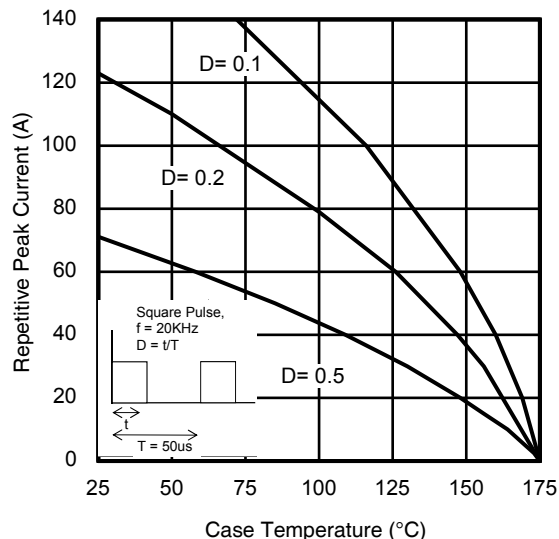

Fig. 19 - Maximum Diode Repetitive Forward Peak Current vs. Case Temperature
- ① $V_{CC} = 80\% (V_{CES}), V_{GE} = 20V, L = 23\mu H, R_G = 10\Omega$.
- ② Pulse width limited by max. junction temperature.
- ③ Refer to AN-1086 for guidelines for measuring $V_{(BR)CES}$ safely.
- ④ $f_{sw} = 20KHz$, refer to figure 19.
- ⑤ R_θ is measured at T_J of approximately 90°C.
- ⑥ Sinusoidal half wave, $t = 10ms$.